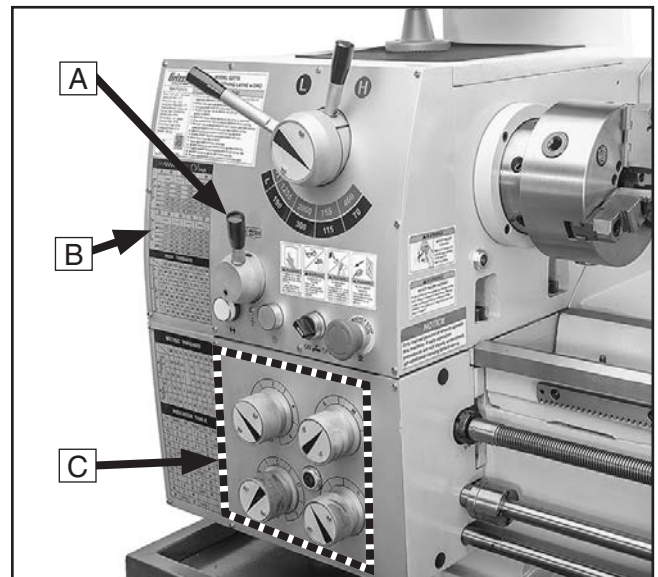

Figure 66. Power feed controls on the headstock.
Use **Figures 66–67** and the following descriptions to understand the power feed controls.
- A. Feed Direction Lever:** Selects the direction for power feed. When the lever is positioned as shown in **Figure 66**, the carriage will move to the left along the bed, or the cross feed will travel toward the front of the lathe.
The feed-rate chart (see **Figure 66** on previous page for location) displays the settings for the headstock feed controls for feed rates.